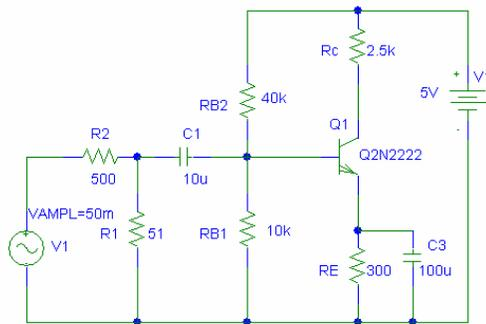

Figure 1: Schematic circuit for Common Emitter Amplifier
1. Set up the circuit as shown in the Figure 1. The resistors R1, R2 are just to attenuate the signal so that a small input signal (few mVs) is applied to the amplifier.
The traditional way to observe the frequency response of a common emitter amplifier is to apply the input at different frequencies, take measurements and plot the response. The TDS7000 Series' Fast Fourier Transform (FFT) feature and intensity-graded display, coupled with the AFG310/320 arbitrary function generator's sweep mode provide an easy way to observe the frequency response. (Note: This is possible only when the harmonics at a frequency in the range of interest is less than the fundamental at that frequency for all frequencies of interest). The function generator's sweep mode generates signals of different frequencies within a time duration called sweep time. When the function generator output is connected to the setup as shown in the Figure 1, the response of the amplifier to various frequencies can be observed on the oscilloscope using the FFT feature one at a time. The oscilloscope's intensity-graded display can be used to more easily interpret the response of all the frequencies.